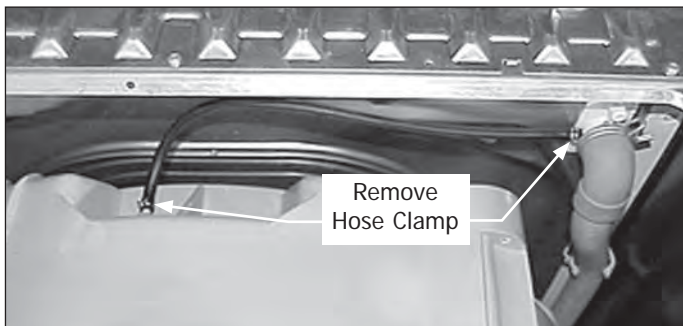

Figure 4-70.
2. Release the (2) clamps, one on each end, and slide the hose off. (See Figure 4-70)